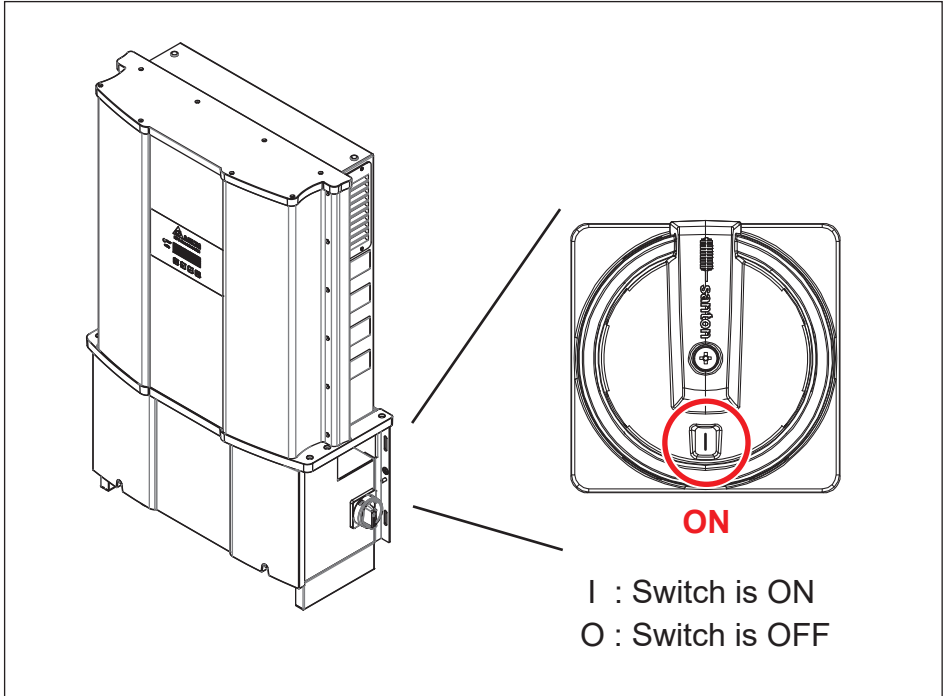

Figure 5-16 : The ON/OFF positions of DC Switches (M88H_122 only)
3. **Figure 5-16** shows the correct way to turn off the DC switches.